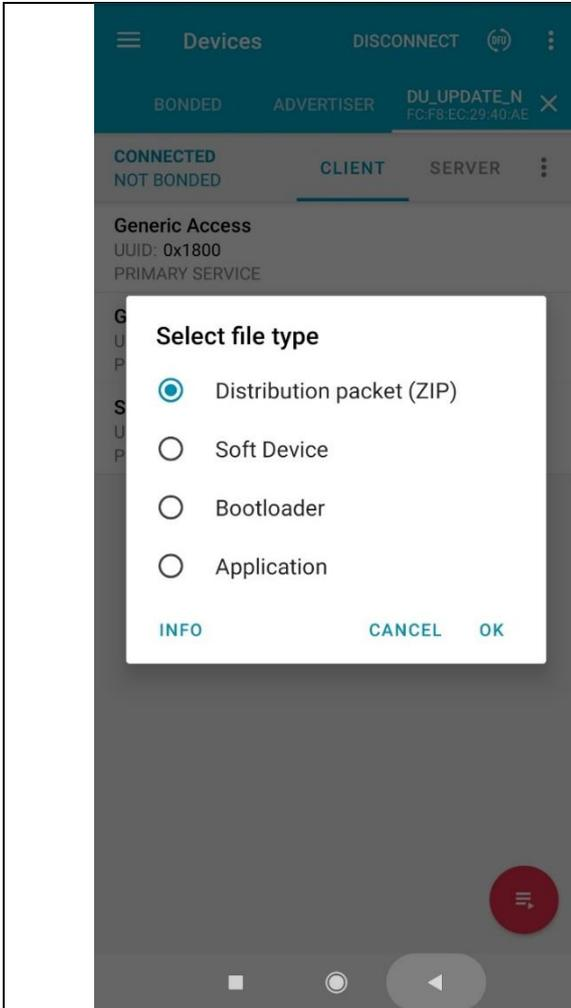

Fig. 10.5. Select the **ZIP** file type
7. After pressing the **DFU** button, you will see the dialog window where the **Distribution packet (ZIP)** has to be selected (Fig. 10.5.)